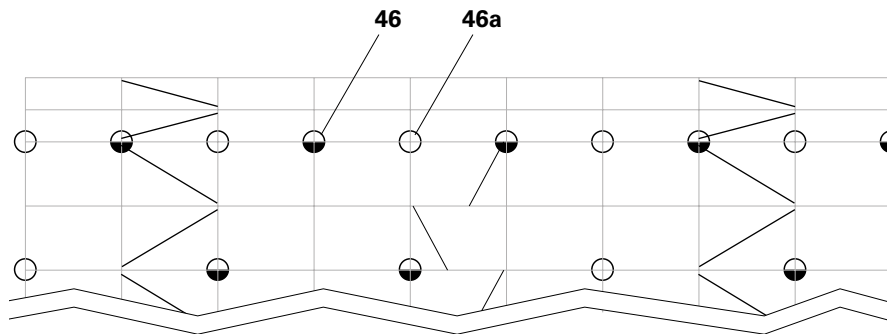

Fig. D3.08
- Anchor every second frame column to the inner and outer legs with Wall Ties UWT (46).
- (Fig. D3.08)